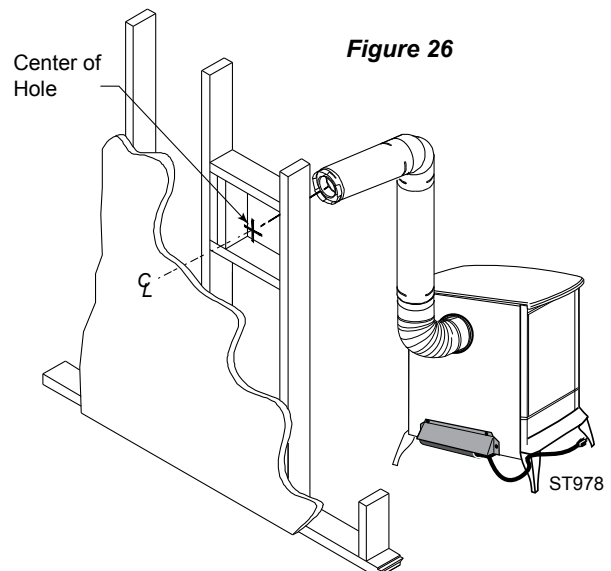

Figure 26
**Step 3.** With the appliance adapter and pipe section attached, slide the stove into its correct location. Mark the wall for a square hole that measures 10" x 10" (254 x 254 mm). The centerline of the pipe should line up with the center of the square hole. (Fig. 26) Cut and frame the square hole in the exterior wall where the vent will be terminated. If the wall being penetrated is constructed of noncombustible material only, i.e. masonry block, brick or concrete only, a hole with zero clearance is acceptable.